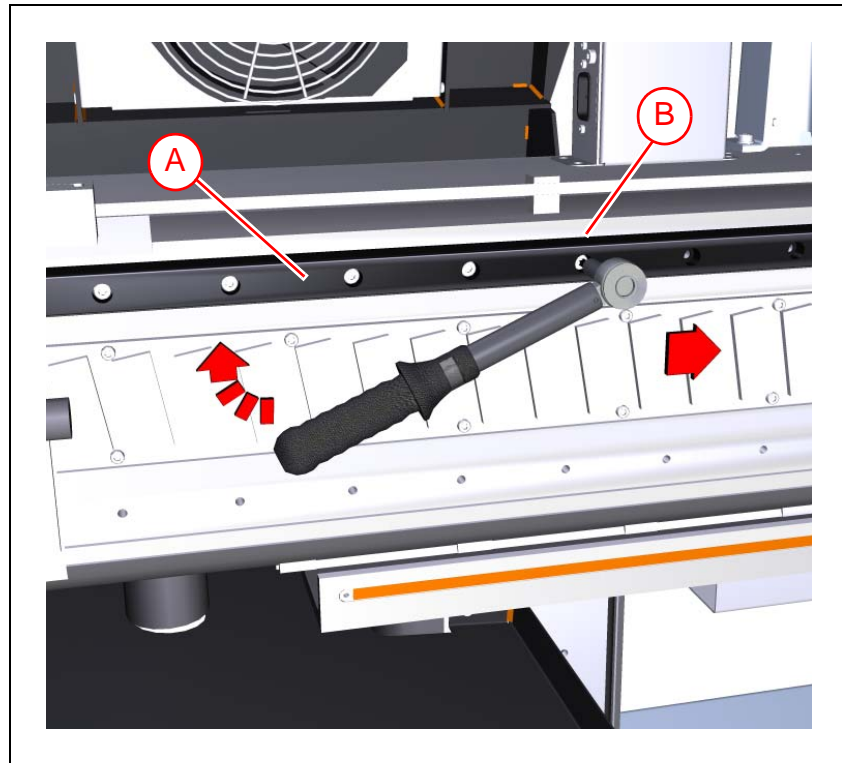

Figure 5-24. Fastening the upper guiding rail.
2. Press the upper guiding rail ('A' in Figure 5-24) against the X-beam shoulder ('B') and tighten the screws just enough to make it rest on the mounting face without play.
3. Perform the final tightening, starting with the screw at the left end and proceeding screw by screw to the right end. See Figure 5-24.